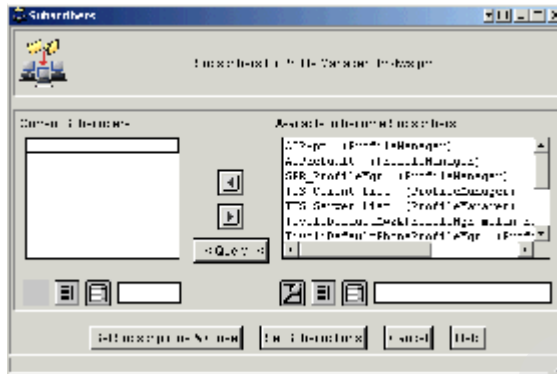

Figure 9-22 Subscribers window
2. The Subscribers window opens as shown in Figure 9-22.